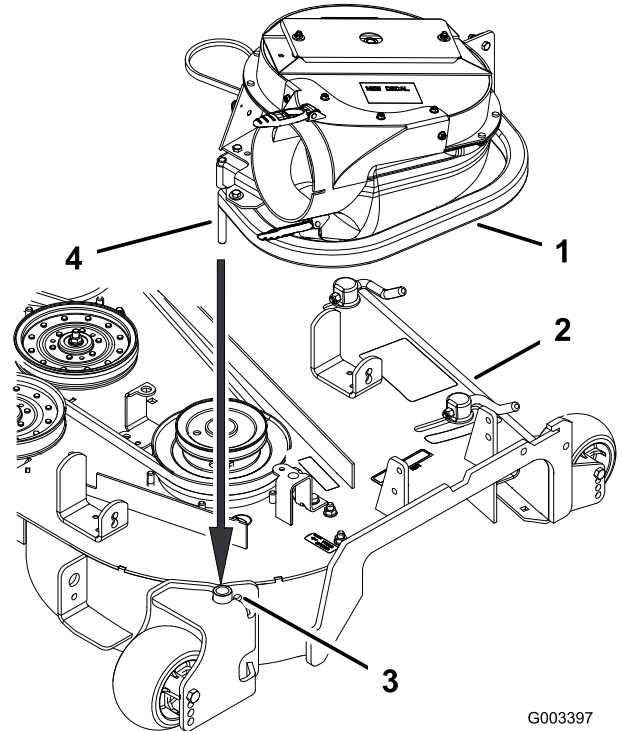
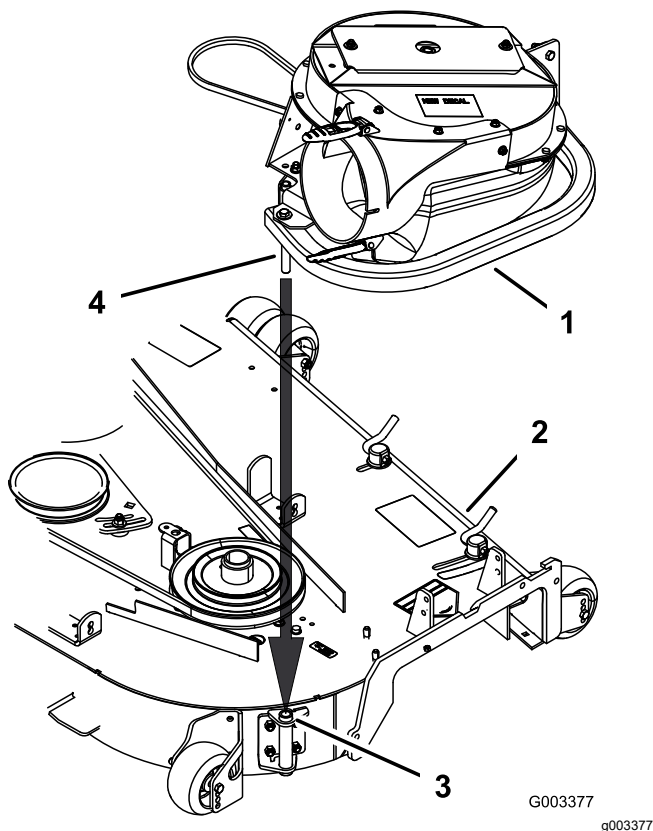

Figure 13
Figure 14
2. Slide the blower-assembly peg into the pivot hole. For 152 cm (60 inch) mowers refer to Figure 13 and for 183 cm (72 inch) mowers refer to Figure 14.